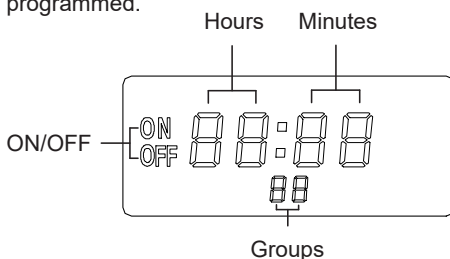

Figure C-8: Programming screen
- After completing the system time setting, press “SET” to begin programming the ON/OFF periods for the DHW cylinder immersion heater. Refer to Figure C-8. Firstly, the LCD screen will display “- - : 0 0” in the hours and minutes area, “ON” in the “ON/OFF” area and “01” in the Groups area. The default display “- - : 0 0” means no ON/OFF periods have yet been programmed.
Press “SET” when the desired minute for this “ON” period to begin has been chosen. “OFF” will now be displayed in the “ON/OFF” area shown in Figure C-8 and the hours will start to flash. Use the “+” and “-” buttons to set the hour from 00 to 23.